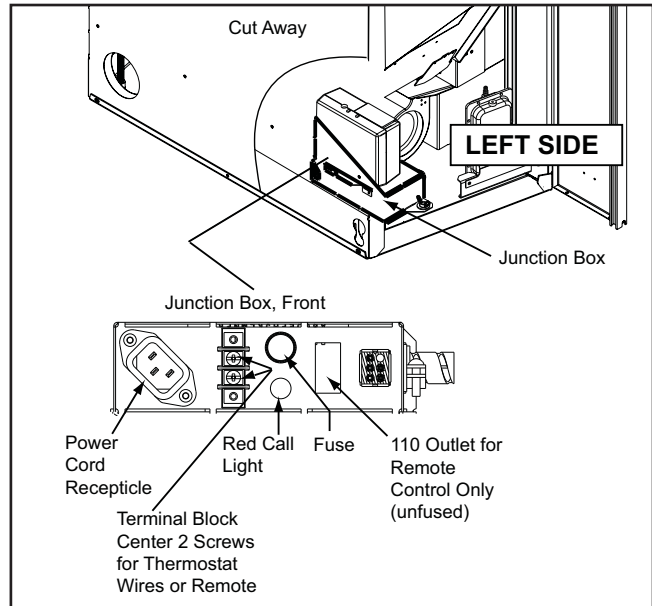

Figure 25.1
3. Locate the heat output control switch on the lower right side of the firebox in front of the right access panel. Set to the HIGH setting and then adjust the thermostat to its highest setting. The red call light will be on which is located on the front of the junction box behind the left access panel. This indicates the thermostat is calling for heat. **Figure 25.1.**